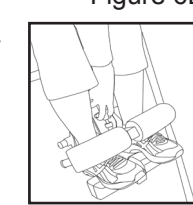

Figure 7
- Use the concept of **HEAR - FEEL - SEE** every time you secure your ankles: **HEAR** the locking pin click into place; **FEEL** the locking pin to make sure it is fully engaged in a hole setting; **SEE** that there is **NO** space between the locking pin and its base. Ankle Clamps are locked securely. (Figure 7)